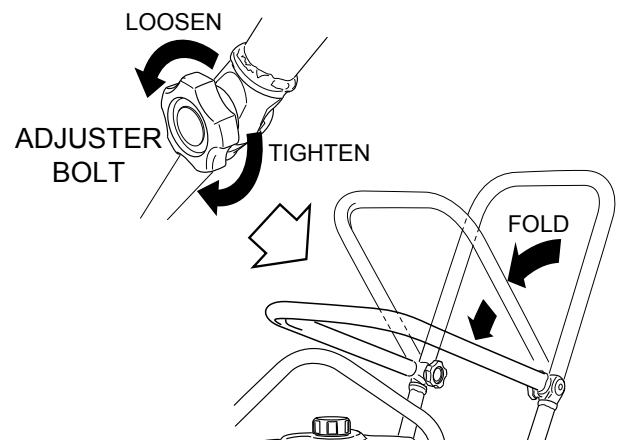

Figure 19. Folding the Handle
1. Loosen handle bar adjuster bolts (Figure 19).